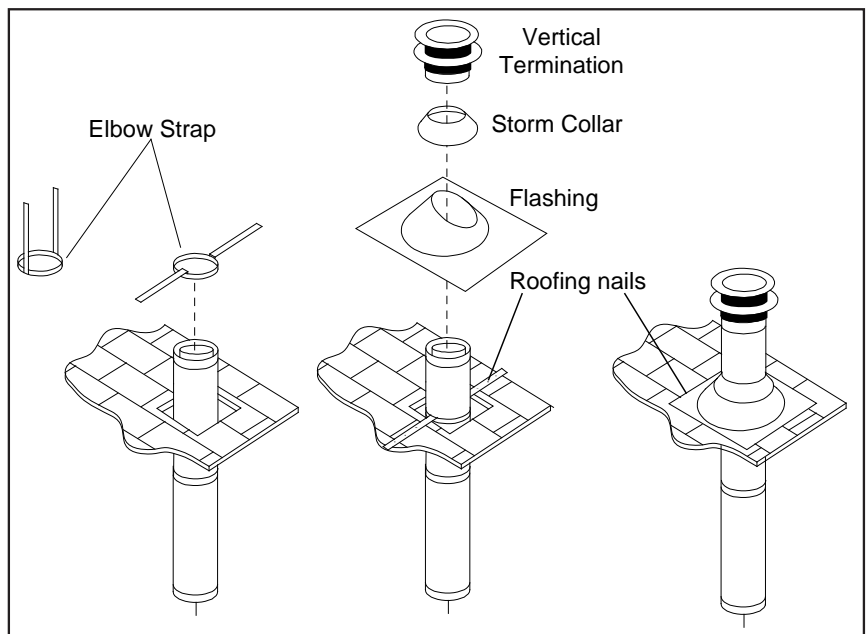

Figure 44: Vertical Vent Termination
Step 3. To install the Round Support Box/Wall Thimble in a flat ceiling, cut a 10 inch (25.4 cm) square hole in the ceiling, centered in the hole drilled in Step 2. Frame the hole as shown in Figure 44.
- STEP 6.** Once the pipe sections have been joined, and run up through the hole in the roof, slip an elbow strap over the exposed sections, bend the support straps outwards, and push the elbow strap down to the roof level, as shown in Figure 44. Tighten the clamp around the pipe section. Use a level to make sure the pipe is truly vertical. With roofing nails, secure the support straps to the roof. Seal the nails holes heads with non-hardening mastic. Trim the excess length of the support straps that extend out beyond the edge of the flashing.